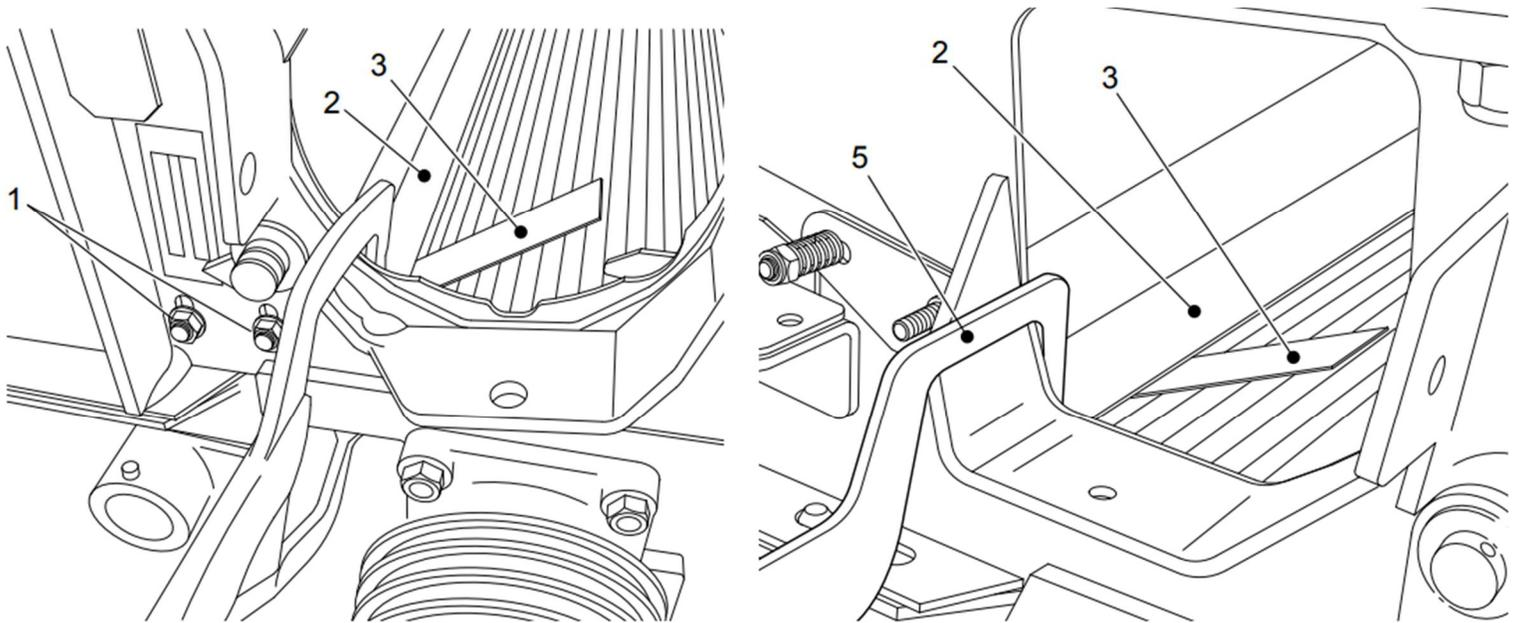
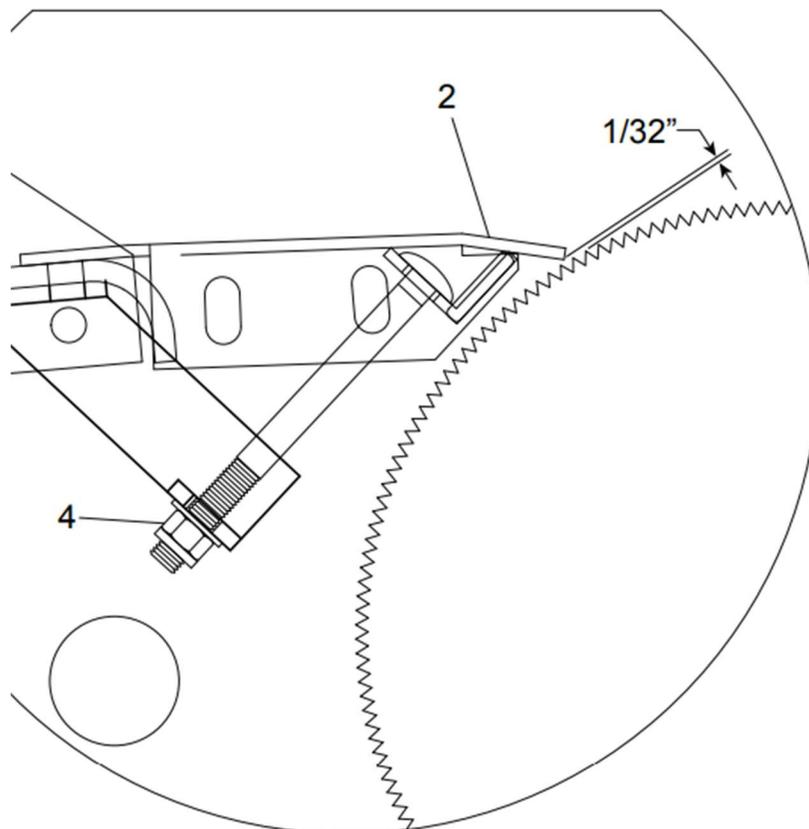

Figure 118 Processor roll adjustment
Figure 119 Processor roll adjustment
1. Hand tighten the two bolts on each side (item 1).
2. Insert a 1/32" spacer (item 3) at each end of the roll, between the roll and the half bottom (item 2).
3. Using a vise grip clamp (item 5 - Figure 119 Processor roll adjustment), lock the half bottom and roll together. Tighten the two bolts on each side properly (item 1 - Figure 118 Processor roll adjustment)
4. Using the three 5/16" X 4 1/2" lg carriage bolts (item 4), adjust to 1/32" the gap between the roll and the half bottom, over the entire width.